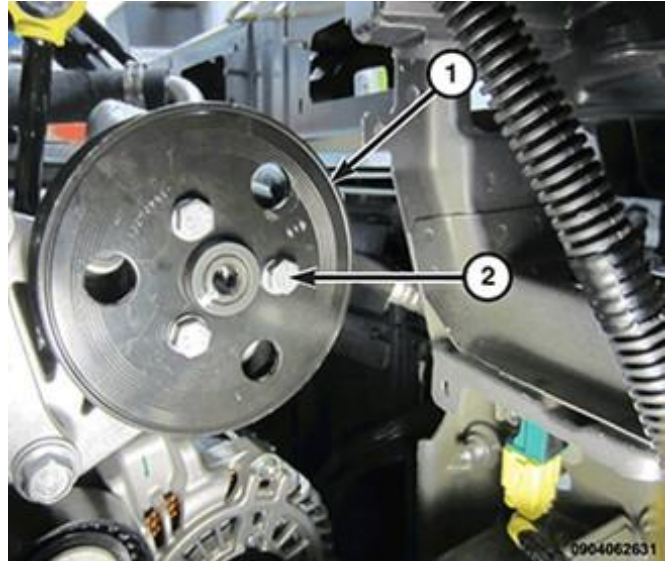

Figure 11 – Pump Pulley
18. (VM) **Ram ProMaster City Only:** Remove the three bolts (2) and the power steering pump pulley (1) (Figure 11).
44. **(VM) Ram ProMaster City Only:** Position the power steering pump pulley (1) then install the three bolts (2) and tighten to 25 N·m (18 ft. lbs.) (Figure 11).